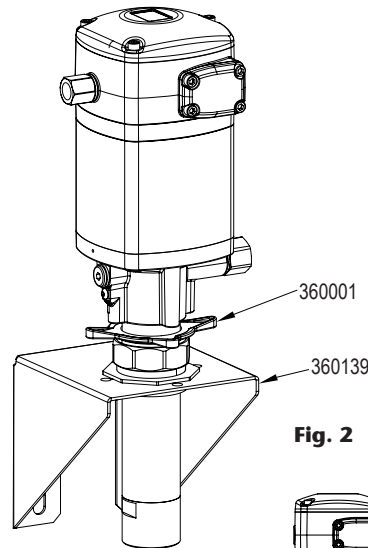

Fig. 2
- Wall mounting with bung adapter. Insert the pump through the wall bracket 360139 and attach it with the bung adapter 360 001 (fig. 2).